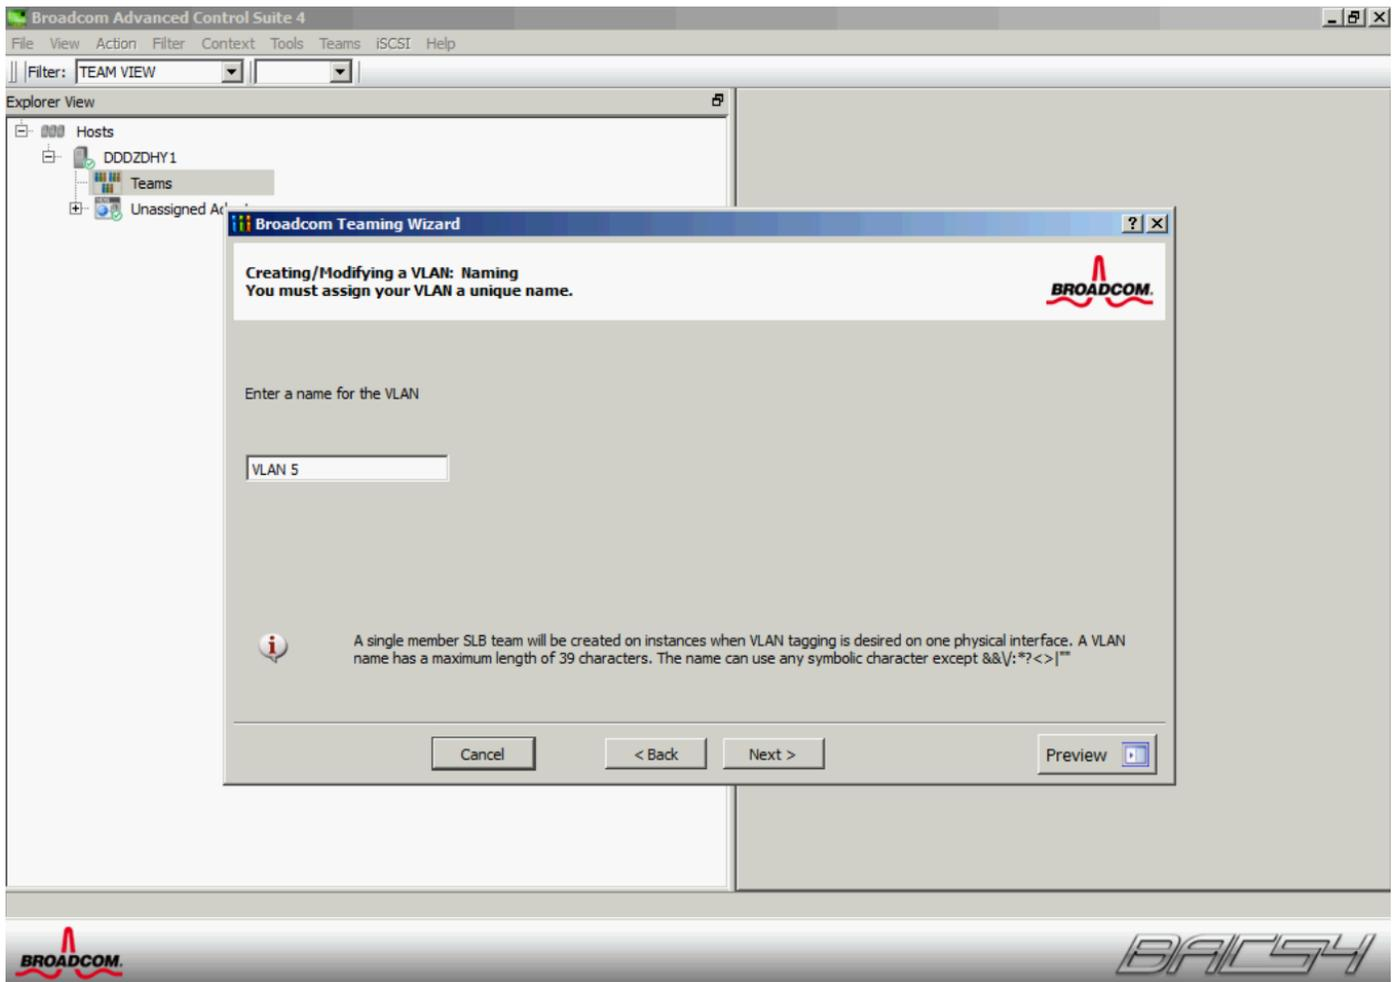

Figure 20 Naming the VLAN that will be added
14. Enter **VLAN 5** for the VLAN Name (Figure 20) and click **Next**.